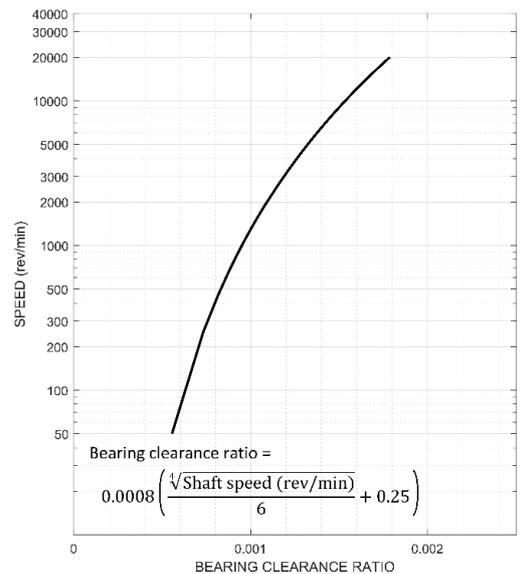

Fig 16 Minimum diametral clearance
Waukesha's recommended minimum diametral clearance at the pivots for normal usage is shown in Fig 16. In some circumstances clearances obtained from this figure can be reduced, but it is recommended that Waukesha be consulted before reductions are made.
1. From Fig 16 bearing clearance ratio for 17 385 min-1 = 0.00173